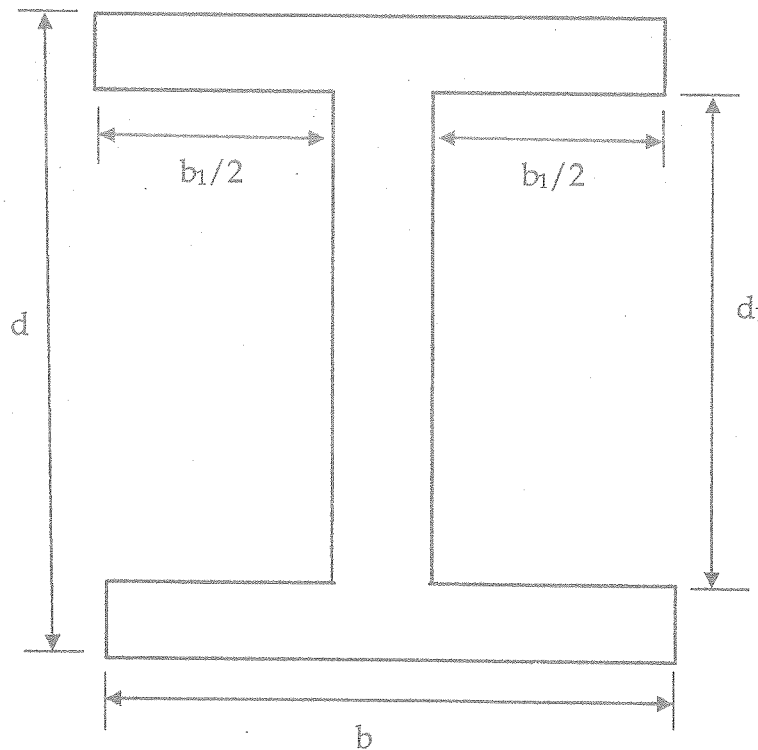

Figure Q3
- b) Consider an I-section beam which is subjected to bending moment as shown in Figure Q3.
- iii) Determine the shape factor of the I-section beam using the dimensions shown in Figure Q3.